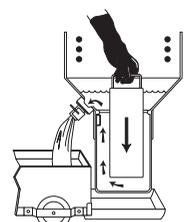

FIGURE 19
6. **! CAUTION:** Wearing safety gloves, with drain valve still open, use displacement tool to force enough cooking oil up and out of drain valve to allow safe removal of collector (Figure 19).